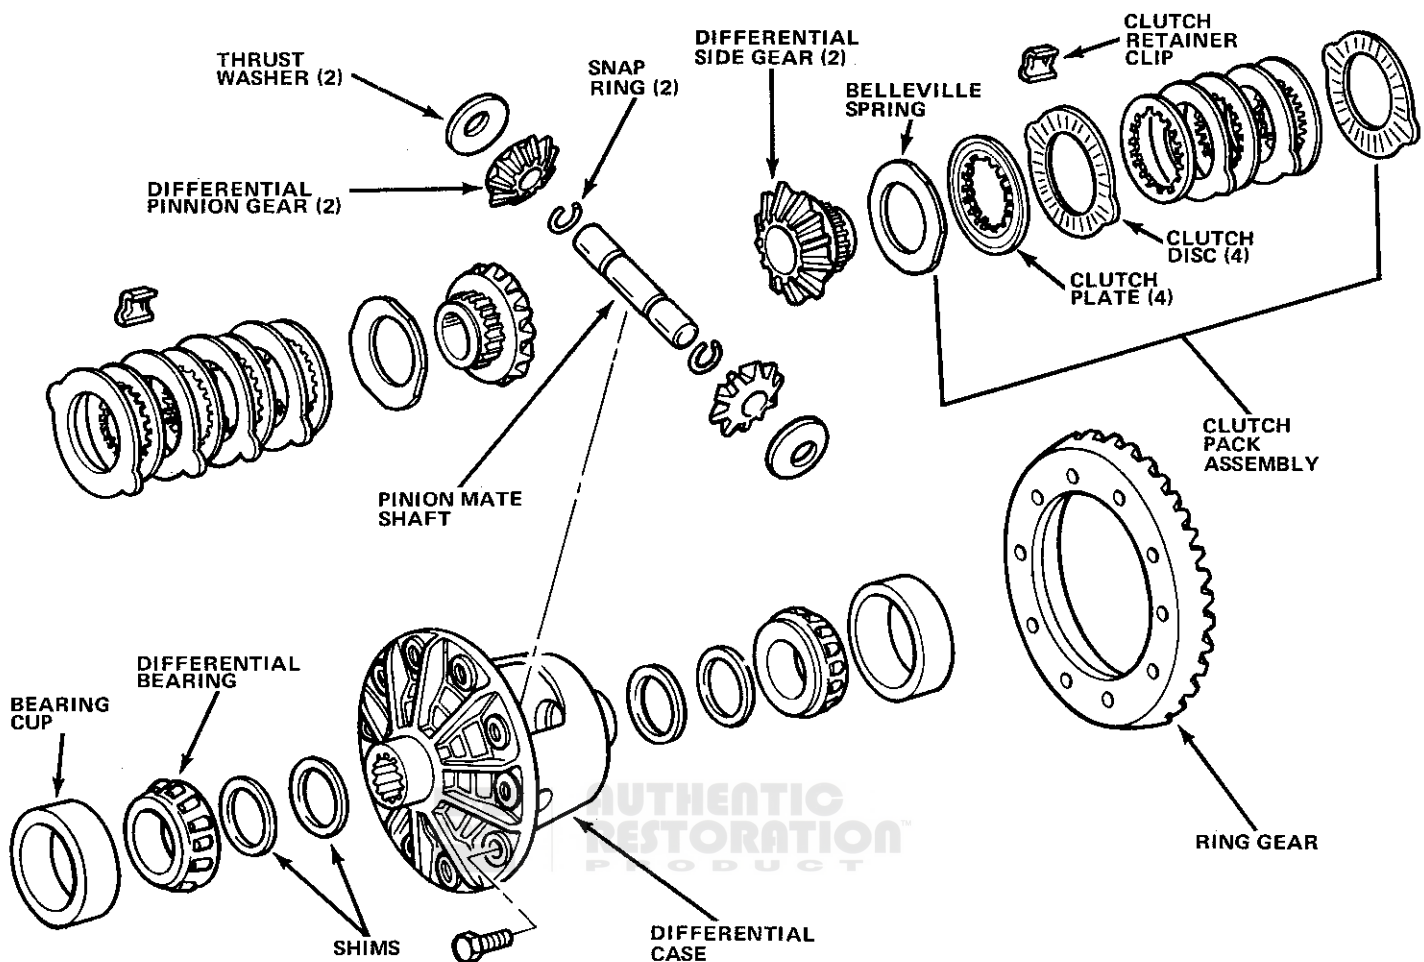

Fig. 2F-60 Trac-Lok Differential
(1) Remove Trac-Lok differential from axle housing. Removal procedures are same as outlined for standard differential. Refer to Figure 2F-60 for parts nomenclature.
(2) Install one axle shaft in vise with spline end facing upward and tighten vise. Do not allow more than 2-3/4 inch (6.98 cm) of shaft to extend above top of vise (fig. 2F-61). This prevents shaft from fully entering side gear, causing interference with step plate tool used to remove differential gears.
(3) Mount differential case on axle shaft with ring gear bolt heads facing upward (fig. 2F-62).
(4) Remove and discard ring gear bolts.